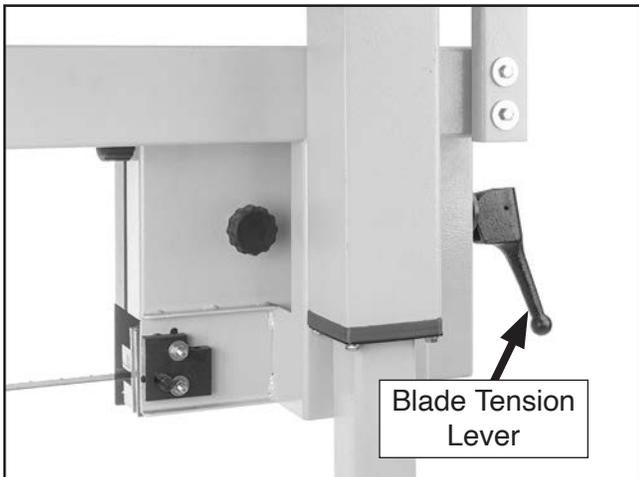

Figure 66. Blade tension lever in down position.
3. Push blade tension lever down to engage tension if not already done (see **Figure 66**), then turn lever clockwise to tension blade, watching blade until proper tension is achieved. If blade shifts or does not sit squarely on blade wheels during step, release tension, reposition blade, then re-tension.